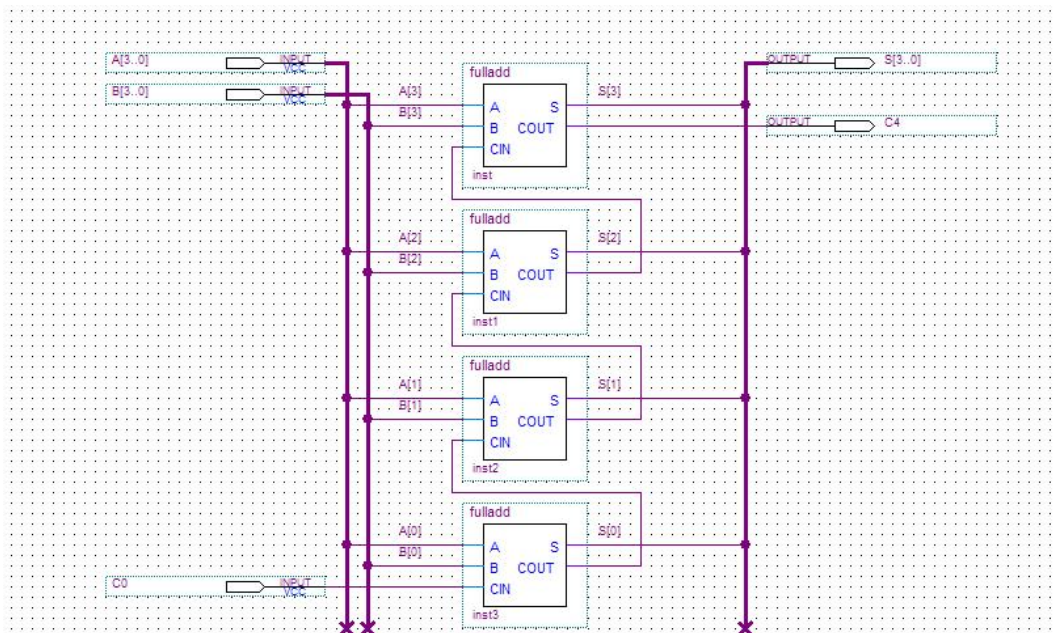

Figure 1: The RCA4 schematic
- a. **Draw** the schematic for the 4-bit ripple carry adder shown in Figure 1.
- c. **Note** that as a result of creating the symbol file in an earlier step, the full adder component is available for placement under the “Project” library in the symbol dialog box. Just double-click as normal, expand the “Project” library if needed. Your symbol will be called FA. In Figure 1, it is called fulladd just to illustrate that the library symbol will depend on what you name the VHDL entity!
- d. **Note** from Figure 1 how input and output **busses** are used to make connecting the inputs and outputs significantly easier. **Busses** are collections of wires holding a number as binary voltages. Thus, **bus** is simply another term for **bit_vector**. Entering the bus isn't hard – here's how: